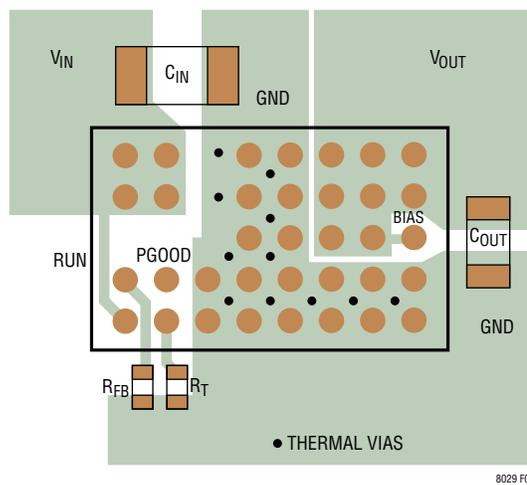

Figure 3. Layout Showing Suggested External Components, GND Plane and Thermal ViAs
Most of the headaches associated with PCB layout have been alleviated or even eliminated by the high level of integration of the LTM8029. The LTM8029 is nevertheless a switching power supply, and care must be taken to minimize EMI and ensure proper operation. Even with the high level of integration, you may fail to achieve specified operation with a haphazard or poor layout. See Figure 3 for a suggested layout. Ensure that the grounding and heat sinking are acceptable.
6. For good heat sinking, use vias to connect the GND copper area to the board's internal ground planes. Liberally distribute these GND vias to provide both a good ground connection and thermal path to the internal planes of the printed circuit board. Pay attention to the location and density of the thermal vias in Figure 3. The LTM8029 can benefit from the heat sinking afforded by vias that connect to internal GND planes at these locations, due to their proximity to internal power handling components. The optimum number of thermal vias depends upon the printed circuit board design. For example, a board might use very small via holes. It should employ more thermal vias than a board that uses larger holes.